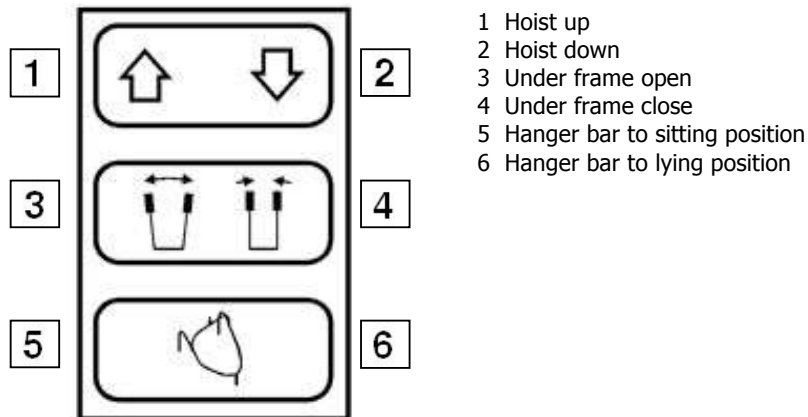

Figure 12 Hand-held control
- the control buttons as shown in figure 12.